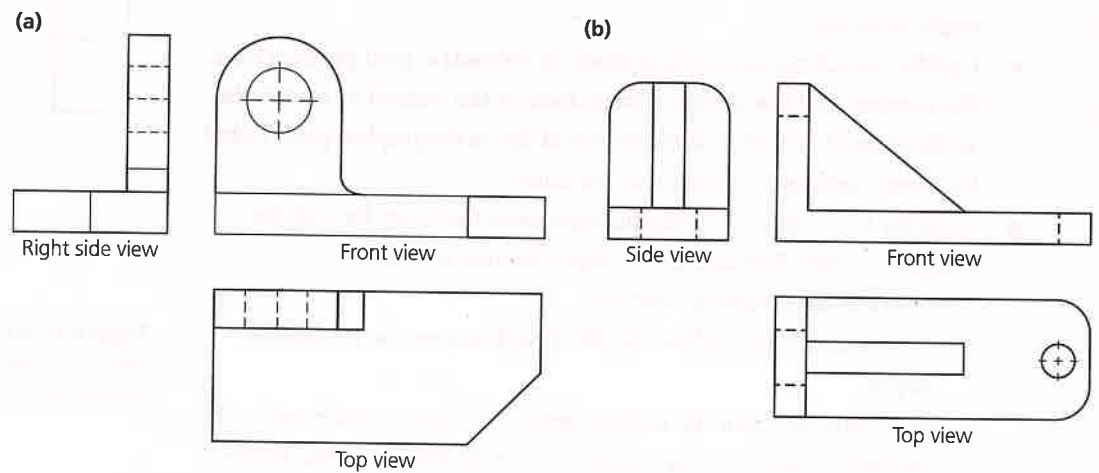

Figure 6.16 Orthographic drawings
- 4 Use isometric grid paper to draw isometric projections of the orthographic drawings in Figure 6.16.